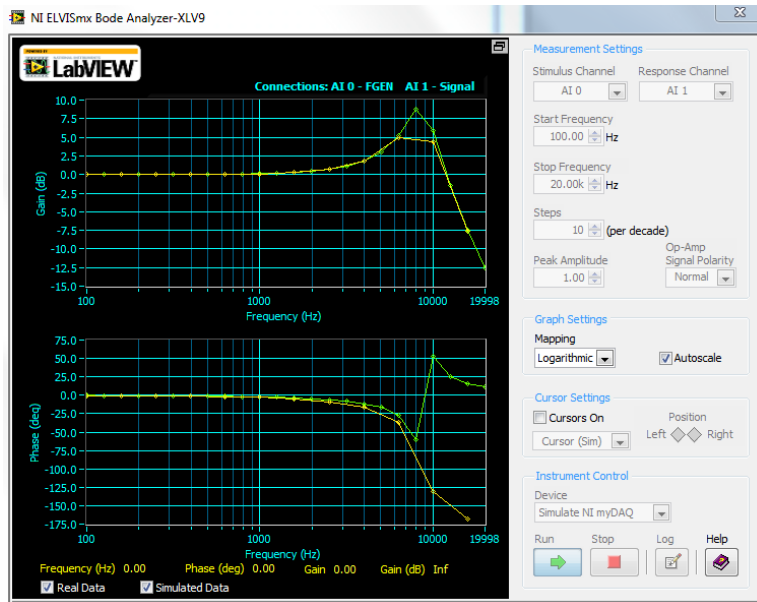

Figure 10: Second order circuit Bode Plot (simulated and actual)
9. Generate the Bode plot for the simulated and actual circuit and the results should look similar to Figure 10. The Bode plot for the actual system is correct but the magnitude and phase plot for the simulated system are actually a little bit off because the internal winding resistance of the inductor and capacitor and this has not been considered in the simulated design. In addition, there is a bug in the simulated phase plot that should be ignored.